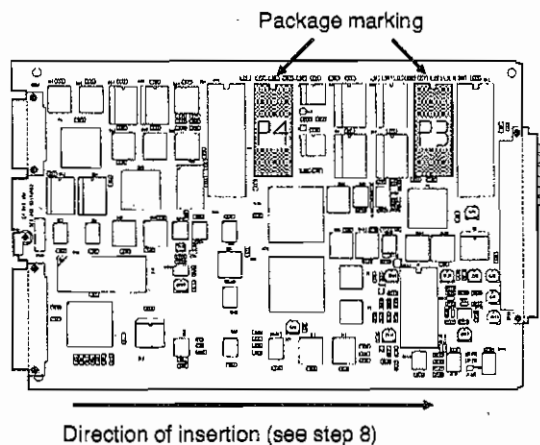

Fig. D.2: Computer board of STABILOCK 4015 with two EPROMs P3 and P4
- 5) On the computer board you will find EPROMs P3 and P4 (Fig. D.2). Remove them from their sockets - best done with a chip extractor - and put them to one side (make sure you do not get the old and new EPROMs mixed up).
- 7) Insert the new EPROM P3 in socket P3 (Fig. D.2) and P4 in socket P4 (observe the markings on the package).
- 8) Put the computer board back into the slot next to the power supply on its guide rails. The component side must be facing away from the power supply (direction of insertion: see Fig. D.2). Do not use force: the computer board must easily slot into its connector.